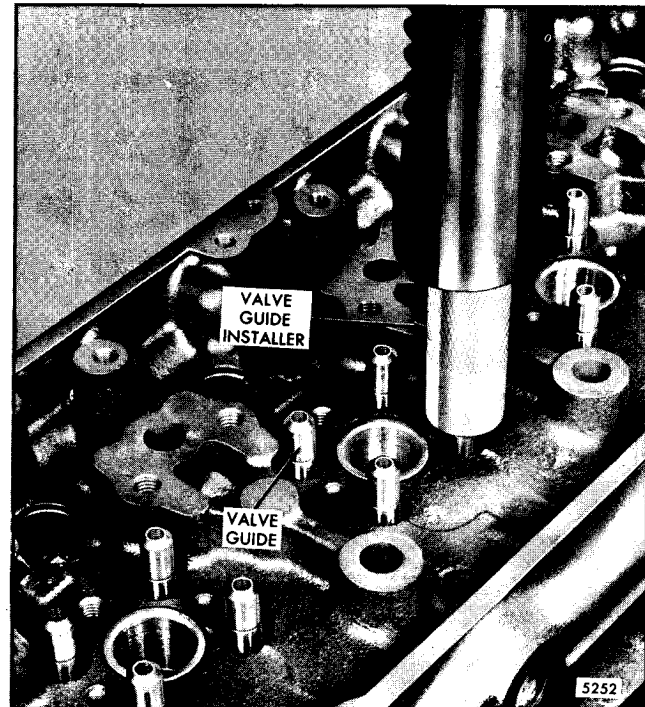

Fig. 8 - Installing Valve Guide
3. Position the valve guide squarely in the bore in the cylinder head and press the installing tool gently to start the guide in place (Fig. 8). Then, press the guide in until the tool contacts the cylinder head (the bottom of the counterbore in the four-valve cylinder head).